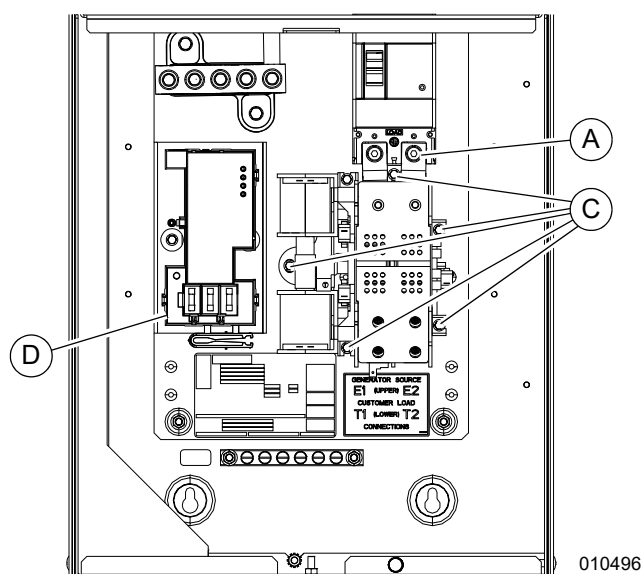

Figure 3-9. Install Kit G0074000
3. See Figure 3-9. Use provided M5 screws (C) to install transfer switch assembly from kit G0074000.
4. Install screws (A) from step 1 and tighten to 72 **in-lbs** onto circuit breaker.
5. Install SACM unit from kit G074000 into bracket provided (D).
6. Plug harness with 8 pin connector into SACM unit (D).